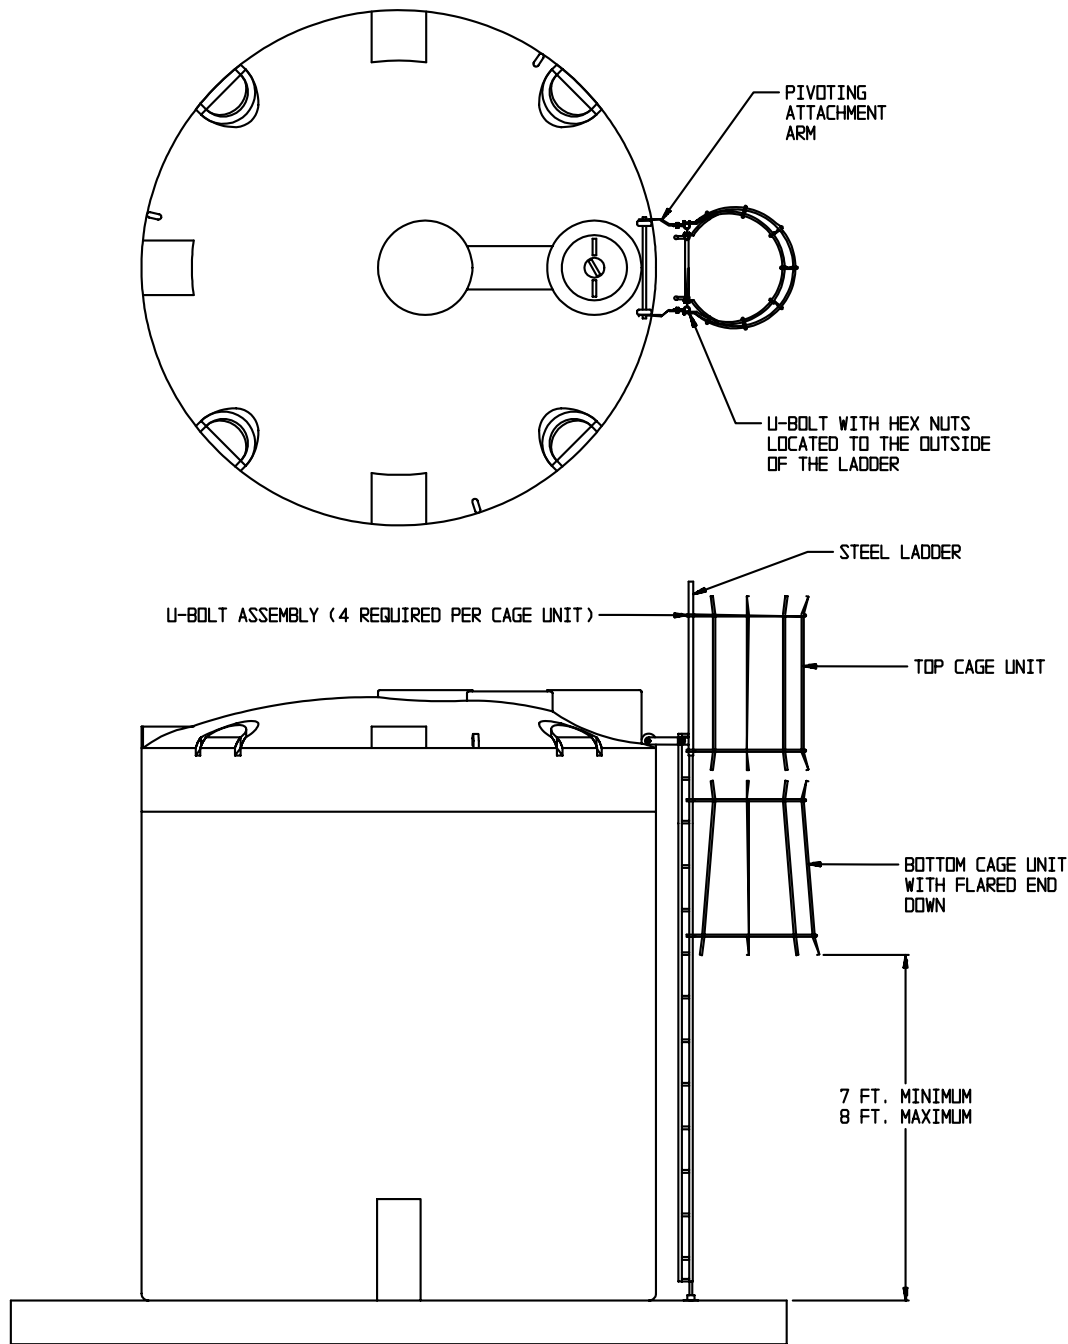

Figure 8.5
8.5.1 Using the assembly drawing shown in Figure 8.5 and the instructions in section 8.5.2, verify that all parts are present and assemble accordingly. These cages are designed for use only with the SIERRA steel ladder design. Cages are required for ladders used to ascend to heights exceeding 20 ft.